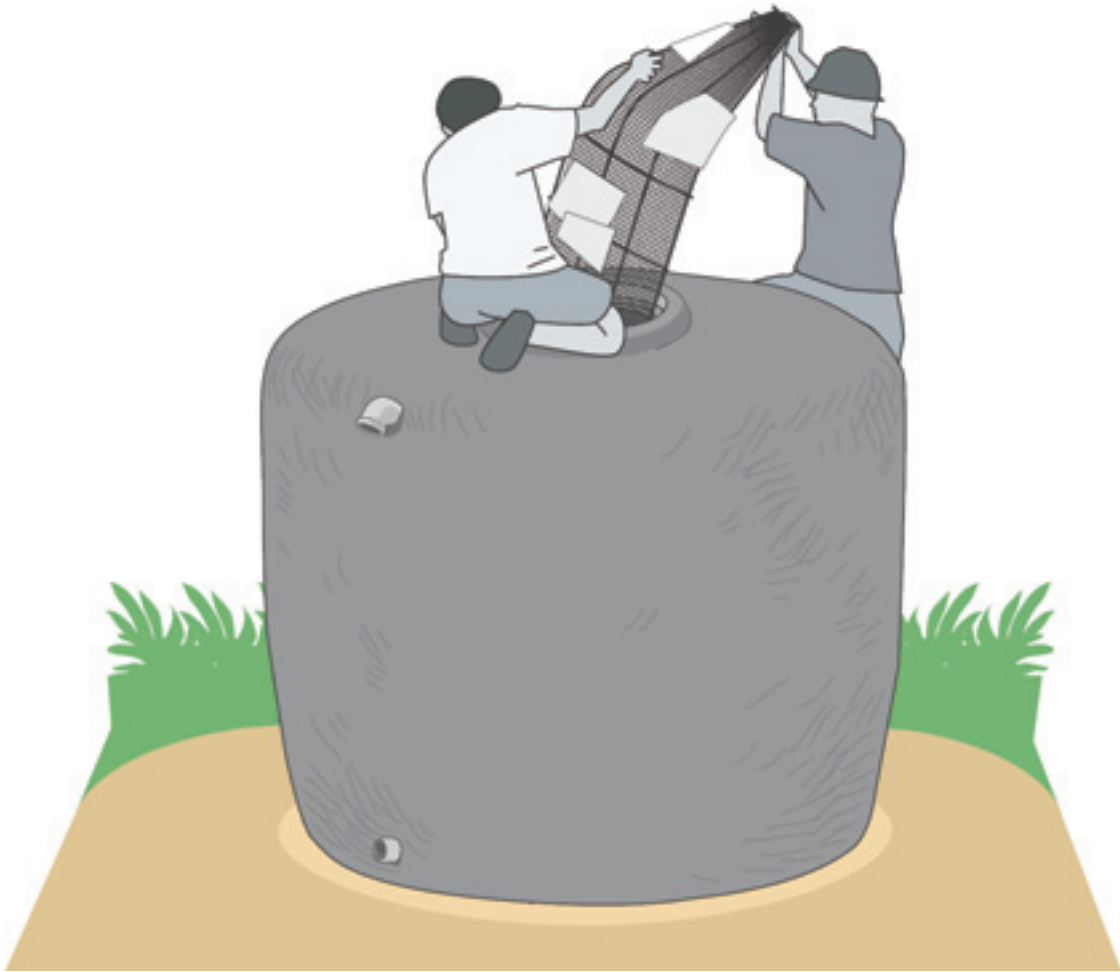

Fig. 42: Removing the form
3. Remove the form pieces and as much newspaper as possible (Fig. 42). Use a wire brush to remove any paper that will not peel away.